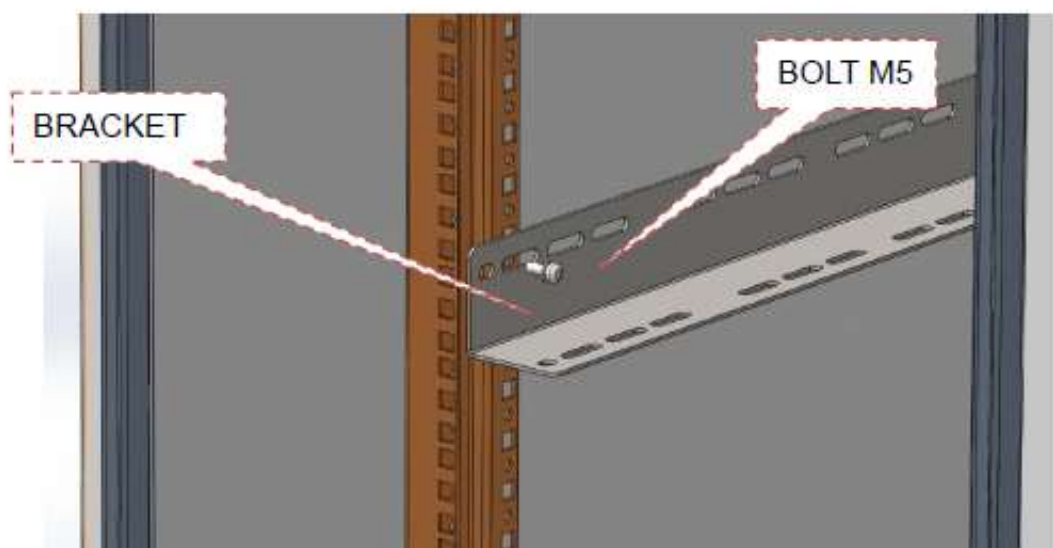

Figure 3-2 Drill holes and Install the Mounting rack on wall
1. Install bracket on the cabinet with the screw. as shown in Figure 3-1. Attention: Please pay attention to mounting of bracket. as shown in Figure 3-2.